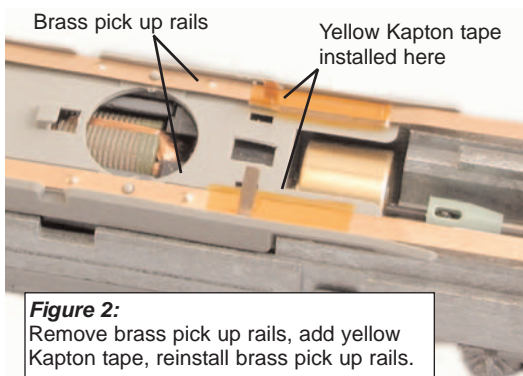

Figure 2:
5. Remove the brass pickup rail from one side of the locomotive, being careful not to bend it. Wrap a small piece of yellow Kapton tape (supplied with the Digitrax decoder) around the rail just to the front of the dimple (between the dotted lines in photo, right). The tape should wrap around the outside edge to ensure the brass motor clip is completely isolated from the brass pickup rail when it is reinstalled. Trim excess tape on the INSIDE edge of the brass pickup rail and reinstall it in the locomotive, lining it up over the position pin. Repeat the process for the other brass pick up rail. (**Figure 2**)